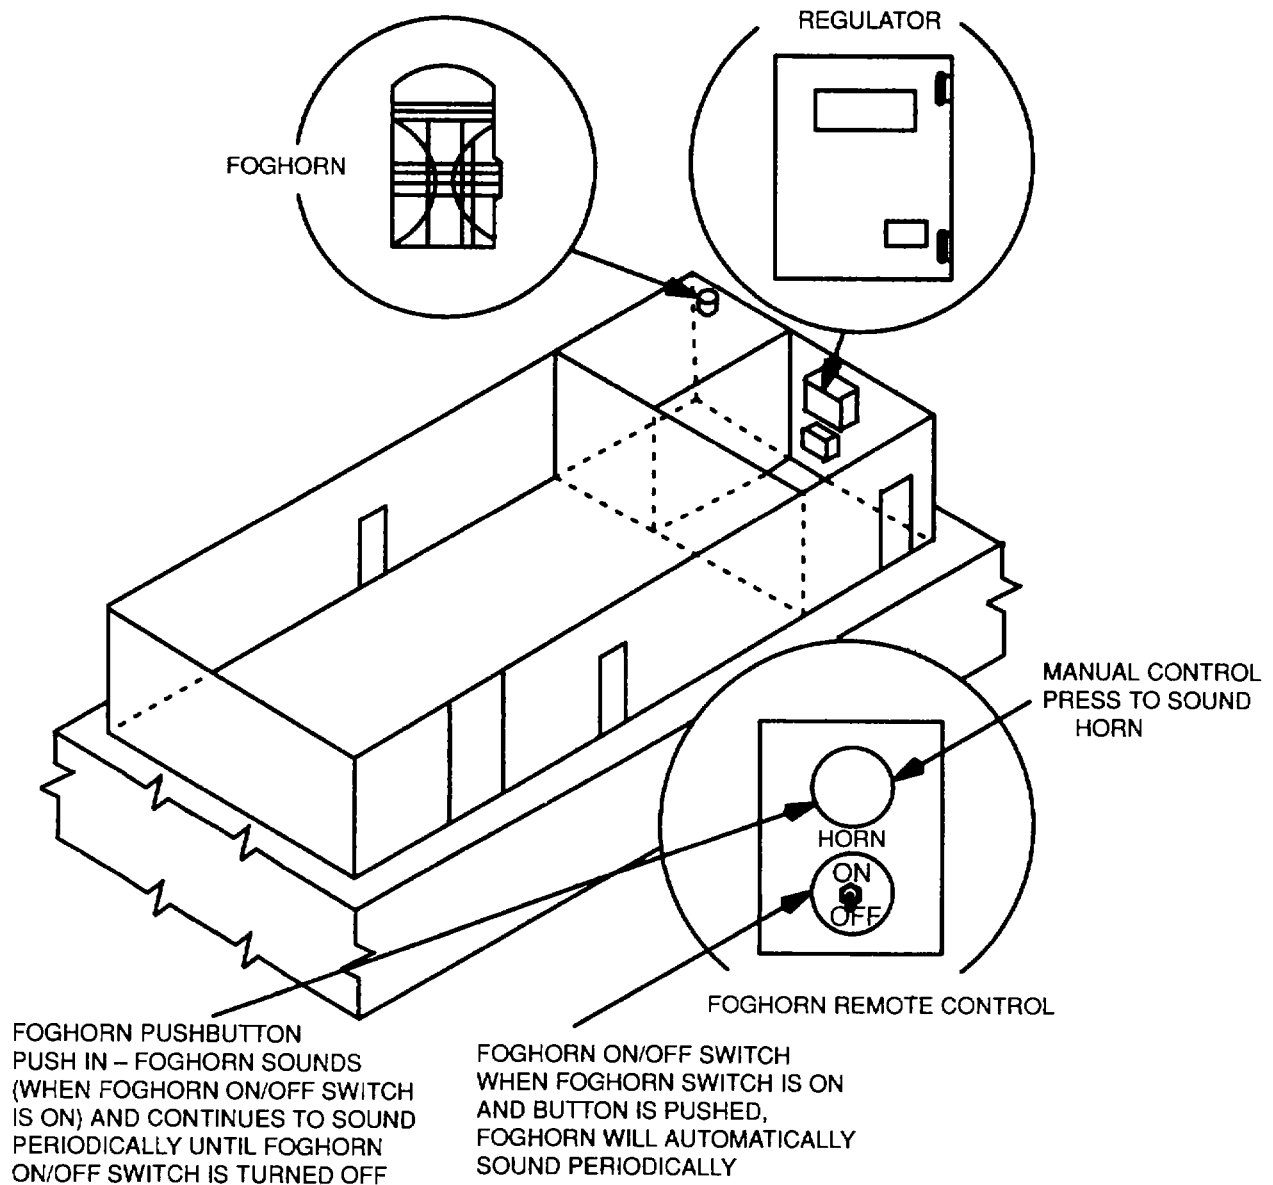

Figure 3-1. Foghorn Major Component Location
3-1 Description. The foghorn produces an omidirectional sound to warn approaching vessels of barge location during periods of poor visibility. The foghorn shown in Figure 3-1 consists of the major components listed in Table 3-1. Installation is shown on drawings listed in Appendix A. Additional information about the equipment is contained in manufacturers' service manuals/instructions in Appendix B.
3-9 Operating controls and indicators. Foghorn controls are shown in Figure 3-1.
- Turn foghorn ON/OFF switch on remote control box (Figure 3-1) to ON.